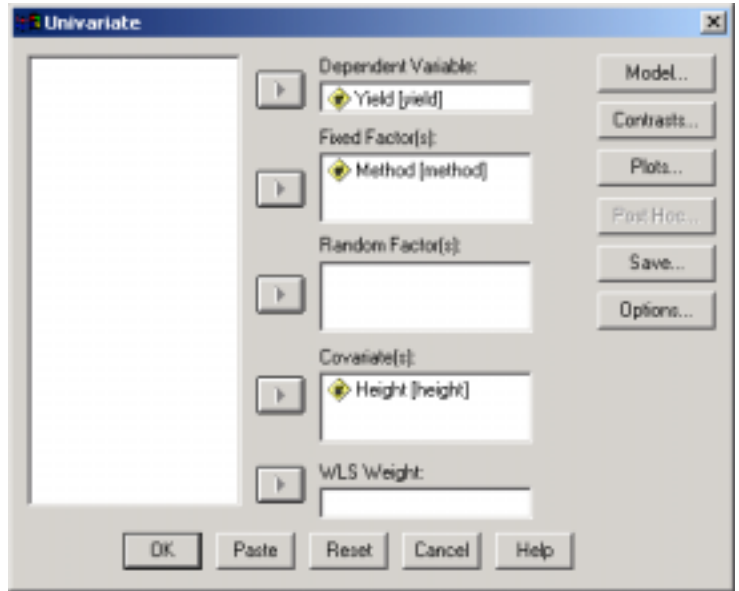

Figure 2. Univariate Dialog box
- II. Select the dependent variable, factor, and the covariate into the proper box as in the Univariate dialog box shown in figure 2 and click **Model...** to specify the model.